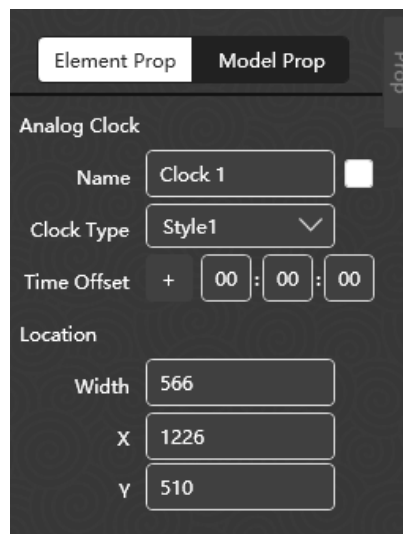

Figure 2.3.14 Properties Pane for Layout Configuration
- ❑ **Element Properties:** Show the properties list for the selected element, as shown in Figure 2.3.14: